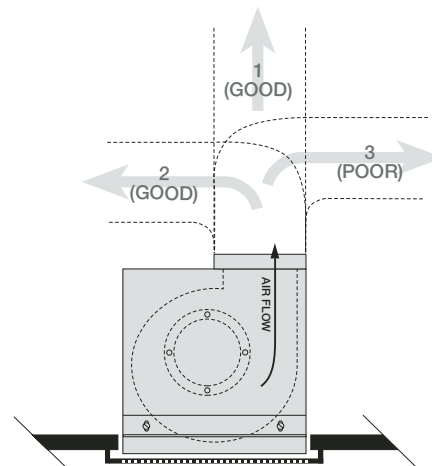

Fig. 11
3. Installation of ductwork is critical to the performance of the fan, shown in Fig. 11. Straight ductwork (1) or ductwork that turns in the same direction as the wheel (2) is recommended. Ductwork turning opposite the wheel direction (3) will cause turbulence and back pressure resulting in poor performance.